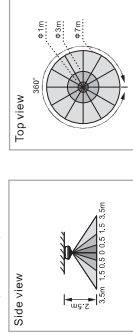

FIG. 2
- 3.1.1 It is recommended to install at the height of 2.5m to gain the optimal detection pattern. The detection range is about ϕ 10.7m diameter with a 360° detection angle (See FIG.2).